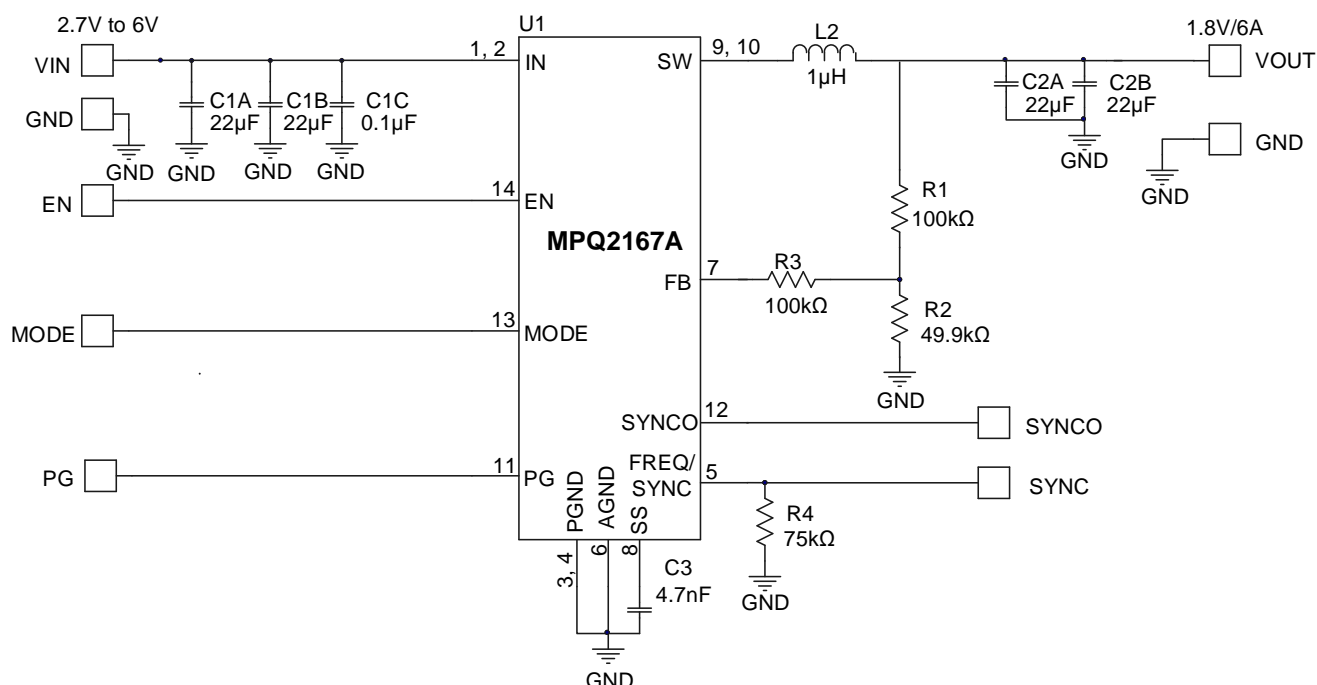

Figure 5: $V_{OUT} = 1.8V$, $I_{OUT} = 6A$ Application Circuit
- 7) The recommended PCB layout is based on the circuit in Figure 5.